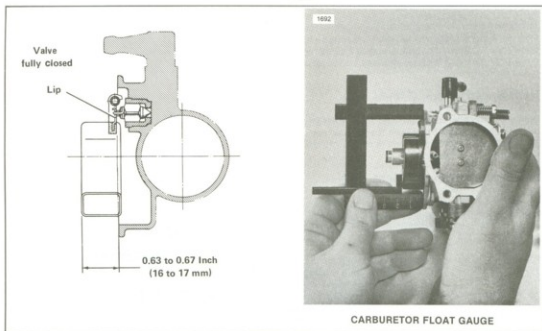

Figure 4-14. Float Adjustment
3. See Figure 4-14. Hold carburetor on its side so that the float will be suspended, from the float pin, in a vertical position. Use FLOAT LEVEL GAUGE, Part No. HD-94752-77 and measure the distance from the face of the bowl mounting flange to the bottom surface of the float. If the measurement is not within the specified limits, bend the metal valve actuator lip up or down a slight amount to give the correct setting.
2. See Figure 4-14. Turn the gas valve off. Disconnect the fuel hose (1), throttle cable(s) (2) and choke cable (3) from the carburetor.